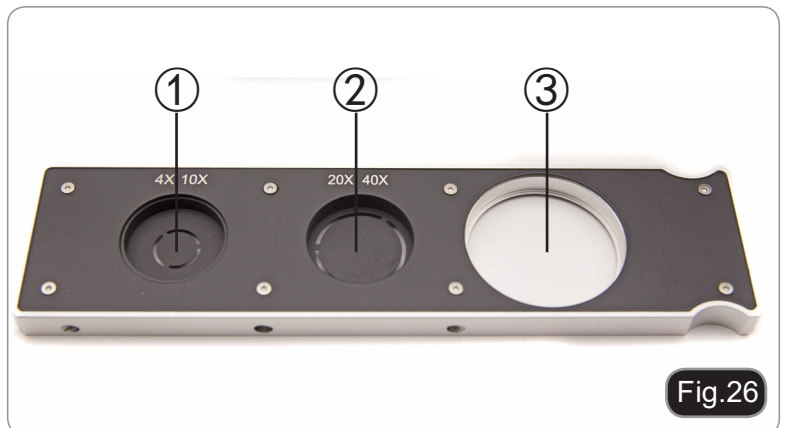

Fig.26
- The 4X/10X light ring ① must be used with 4X and 10X phase contrast objectives, the 20x/40x light ring ② with the 20x and 40x and the opening ③ is used for bright field. (Fig.26)